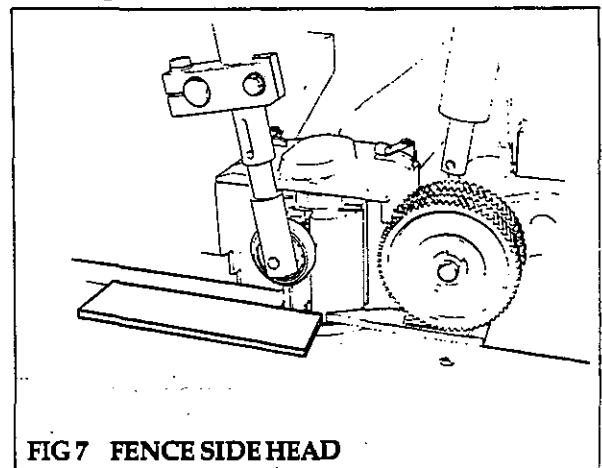

FIG 7 FENCE SIDE HEAD
First Fence Side Head (Fig 7, Fig 2)
- (1) Ensure that the machine bed is clean.
- (2) Place a straightedge against the fence and cutters. Set the spindle so that when rotated the knives lightly touch the straightedge, (Fig 7).